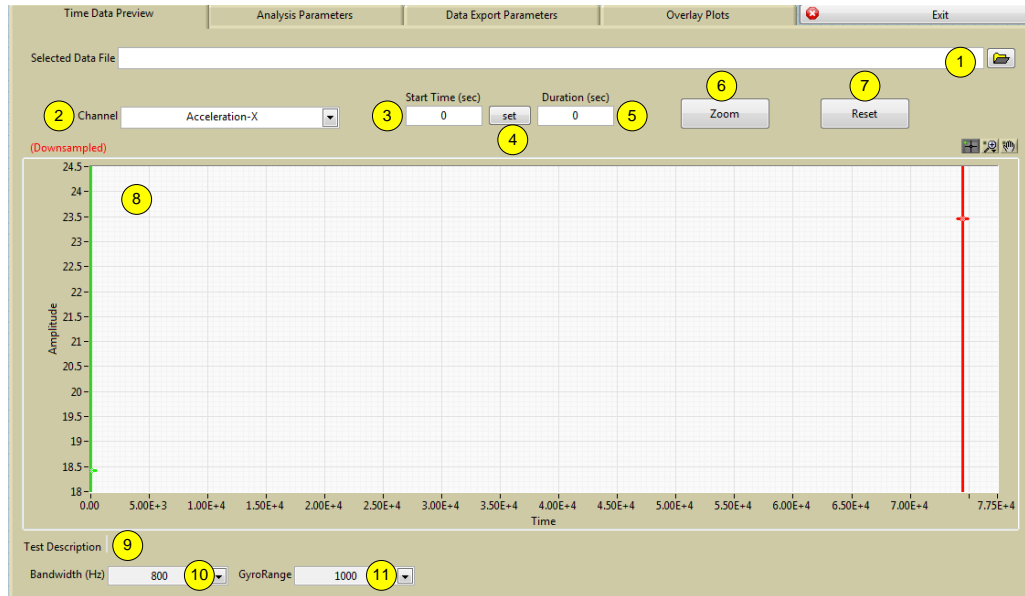

Figure 13: Analysis (Time Data Preview)
6. To access the post processor software, on the main control panel press the Analysis button and a window similar to Figure 13 will be displayed.